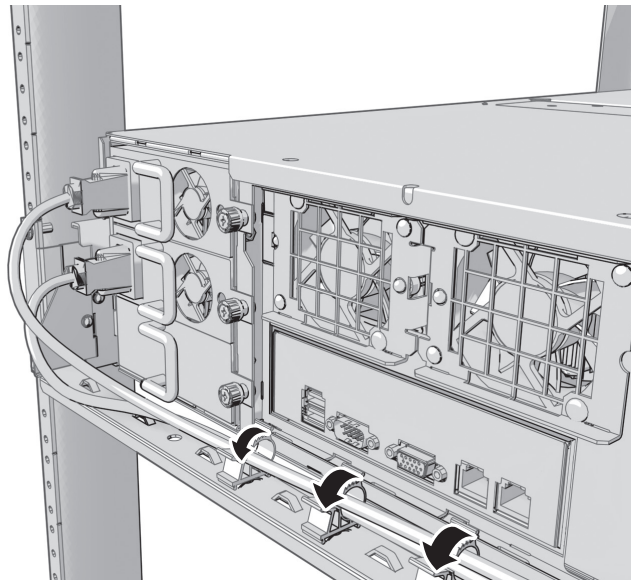

Figure 17. Bundling the Power Supply Cords
14. Position the NSM5200 power supply cords along the cable management bracket, and then close the cable clips. You can also use cable ties (not supplied) to bundle all the cords (refer to Figure 17).